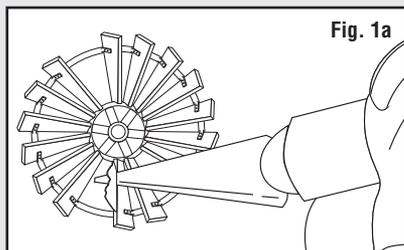

Fig. 1a
- Remove mold flash from Details using a hobby knife and sandpaper (**Fig. 1a**). Do not remove Details from sprues at this time.